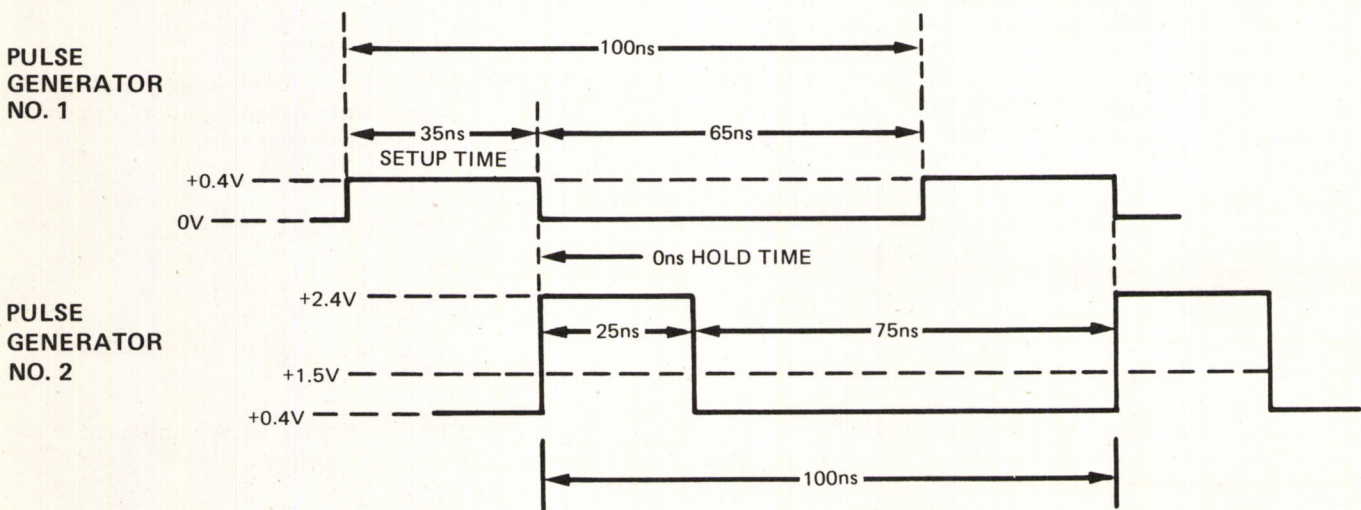

Figure 4-4. Probe Minimum Swing (Maximum Low) Test Waveforms
h. Set 1602A Trigger = "don't care" (all dashes on display). Press TRACE key, then C key. Adjust pulse generators No. 1 and No. 2 as shown in figure 4-4. Verify that 1602A display shows all zeros when input from pulse generator No. 1 is $\leq +0.4$ V. Correct display for steps g and h verify minimum input swing specification.
- p. Adjust pulse generators No. 1 and No. 2 as shown in figure 4-4. Verify that qualifier condition is invalid (message E41 displayed) when input from pulse generator No. 1 is $\leq +0.4$ V. Steps o and p verify minimum input swing specification.